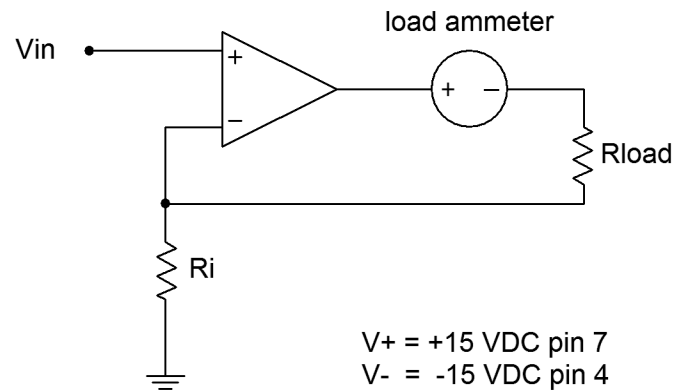

Figure 1
1. The transconductance of the voltage-to-current transducer can be determined from  $R_i$ . Based on the  $R_i$  values, calculate the expected  $I_{load}$  for the circuit of Figure 1, and record them in Table 1.
2. Assemble the circuit of Figure 1 using  $R_i = 1k\ \Omega$  and  $R_{load} = 100\ \Omega$ .